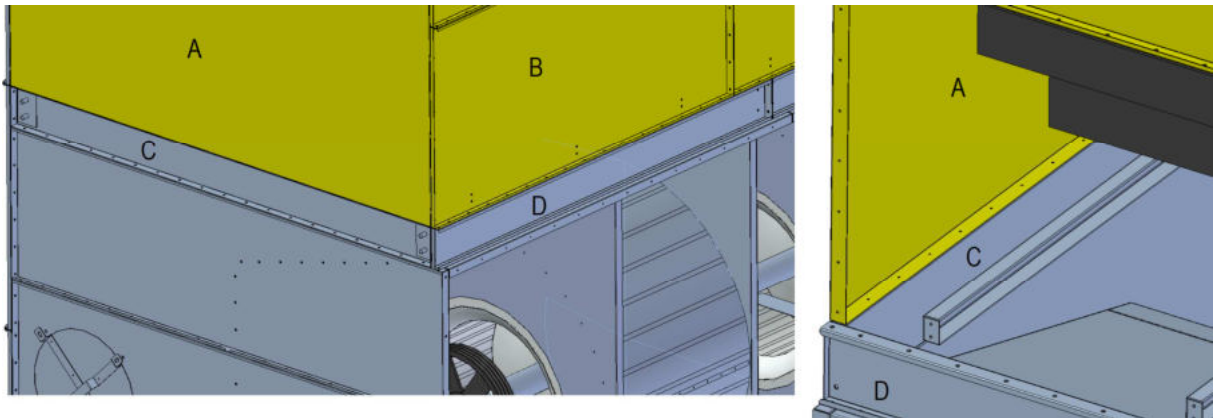

Fig. 10
**Note:** in units >2m wide, the short side of the exchange section, in yellow, (A) may have the support flange facing inwards. In this case, after having joined the sections on the long sides (B and D) with the bolts and nuts, it is necessary to use the self-tapping screws supplied, tightening them from the bottom panel (C) of the basin section, to the top panel (A) of the exchange section as in fig. 10. On the flange facing the inside of panel (A) of the exchange section, there are holes of small diameter prepared for the self-tapping screw.